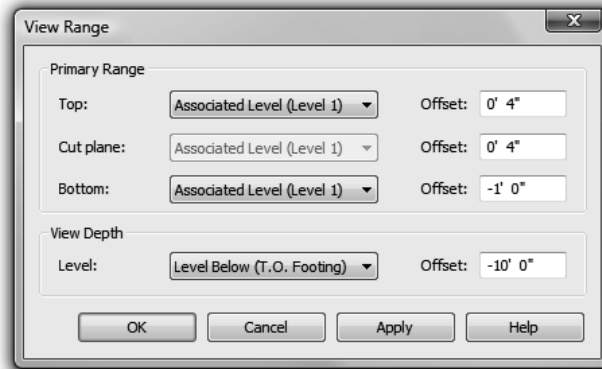

FIGURE 7-5.10 View Range settings
44. Change the *Bottom* setting to **-1'-0"** (see Figure 7-5.10).